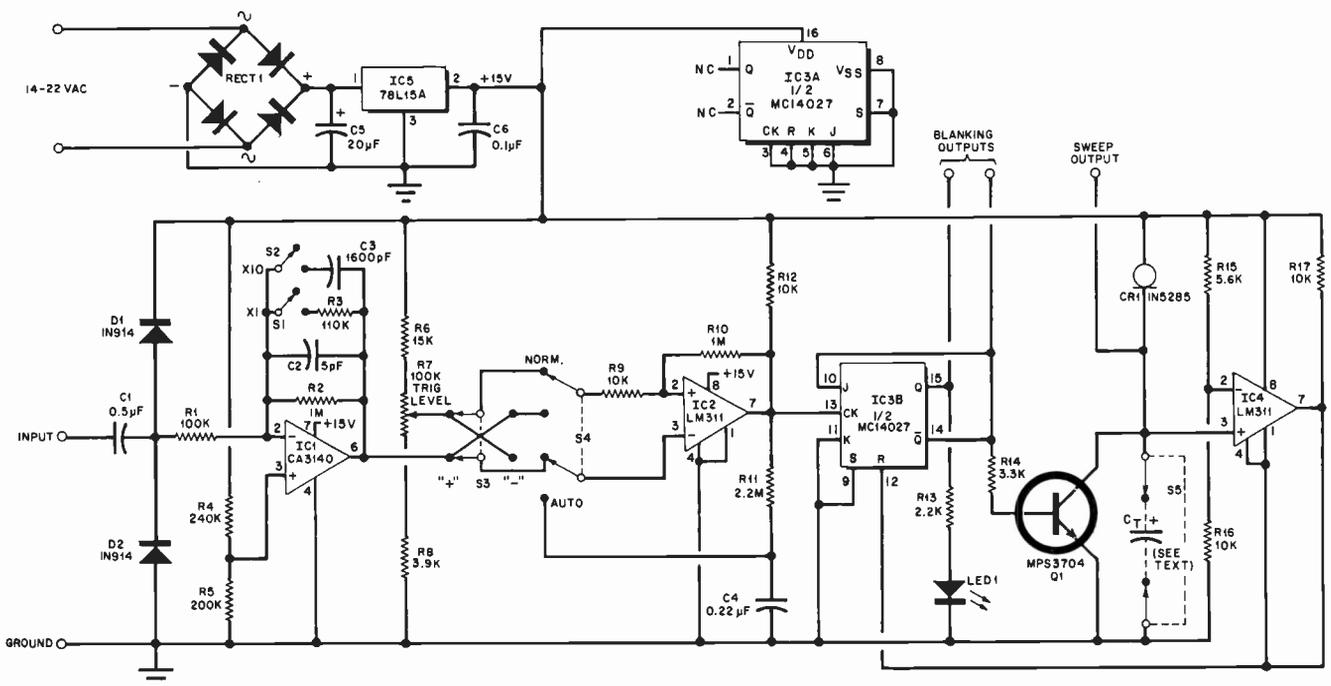

Fig. 1. A linear ramp is generated across the timing capacitor by the current regulator *CR1*.
Mount the display board with ¾" (9.5-mm) long spacers and machine hardware, using a ground lug on one post. Install the switches, LEDs, and connecting wires, referring back to Fig. 1 and the component-placement guides. Don't forget the ground wire to the chassis (case), and use twisted-pair leads for *S2* and *SPKR*. Label the front panel.
**About the Circuit.** The heart of the circuit, shown in Fig. 1, is field-effect current regulator *CR1*. This device adjusts its resistance to provide a constant current with only slight regard (within limits) to the voltage applied across it.